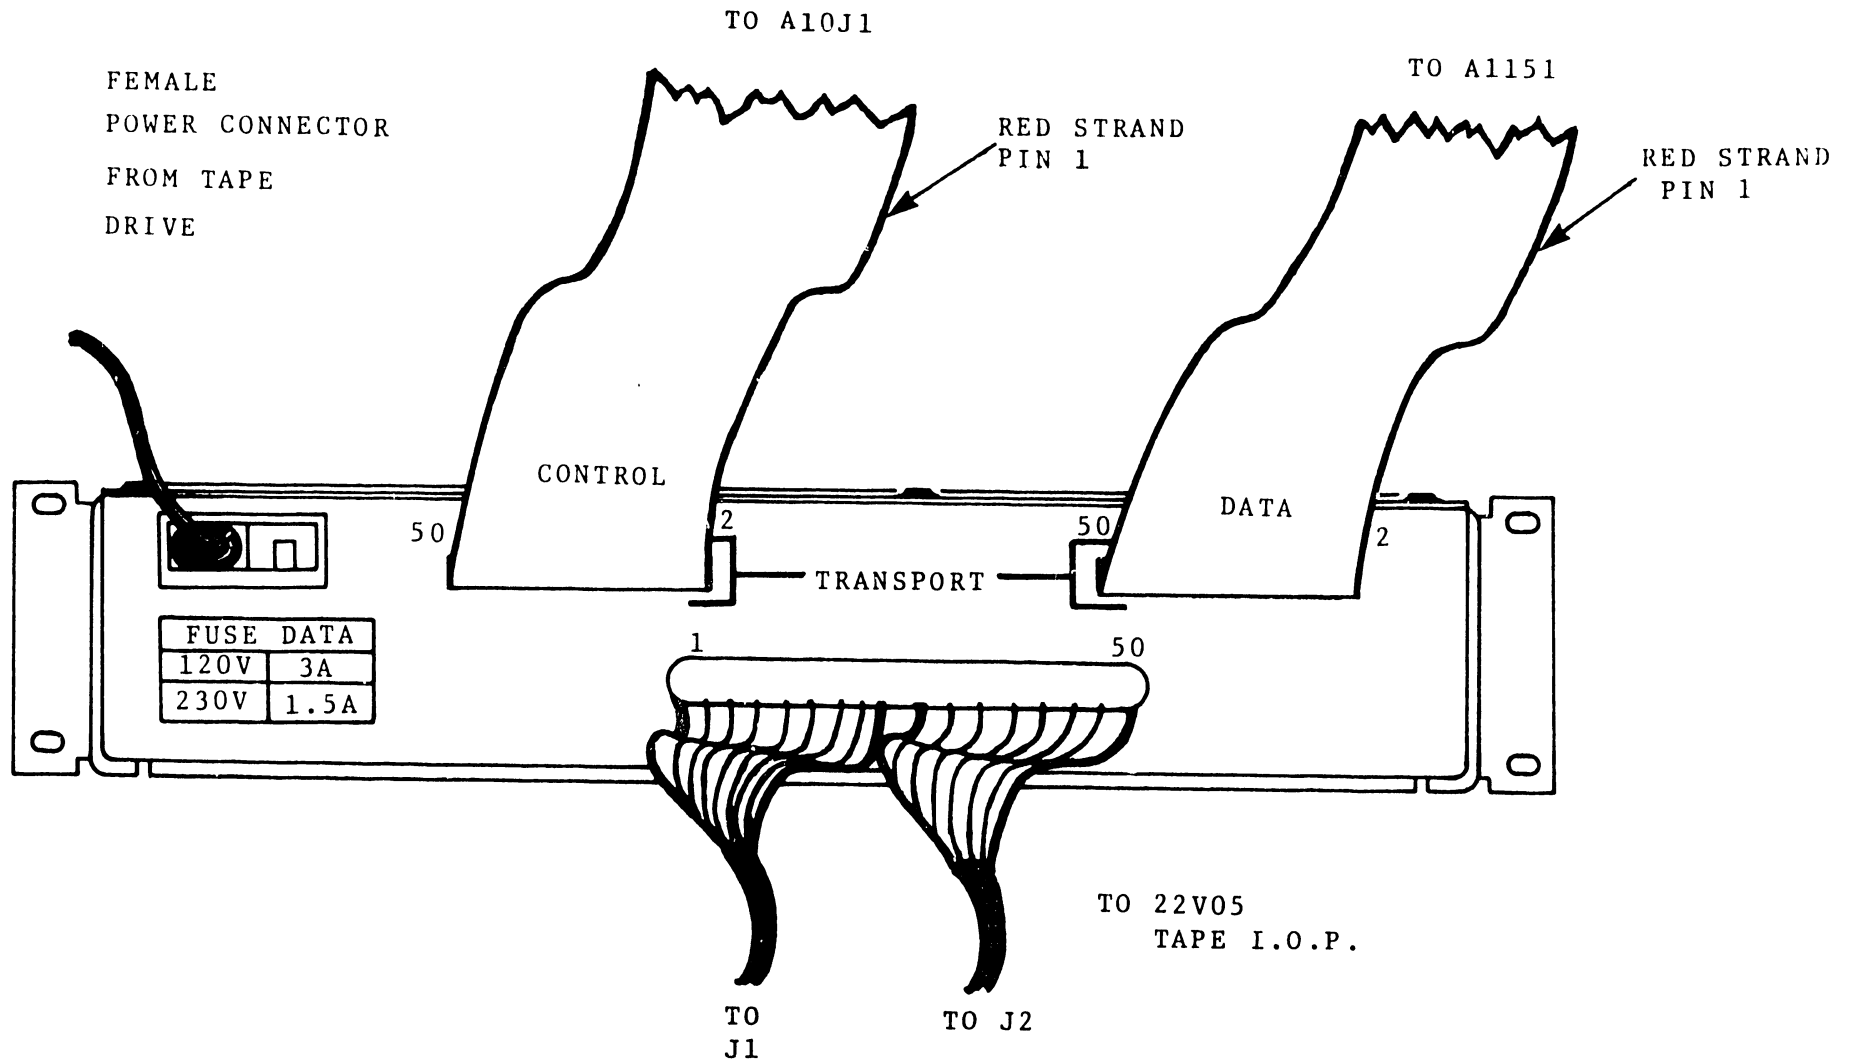

FIGURE 4-98 REAR VIEW OF FORMATTER ASSEMBLY
- A. Ensure that these cables are installed as shown in Figure 4-98.